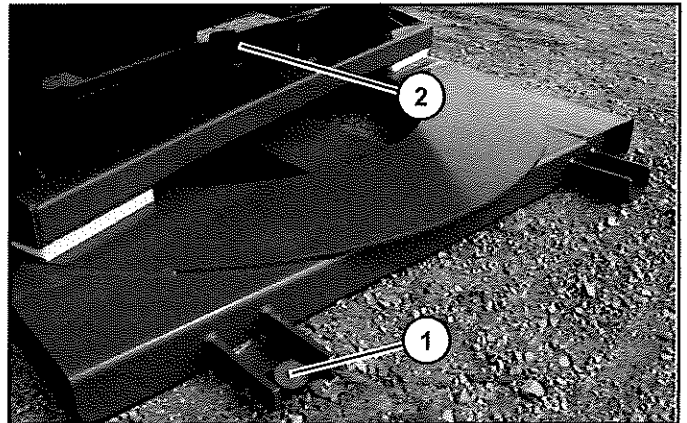

Figure 104
9. Remove the stakes (Item 1) holding the pivot plate in place. Remove the bolt (Item 2) securing the tail end of the conveyor to the pivot plate (**Figure 104**).